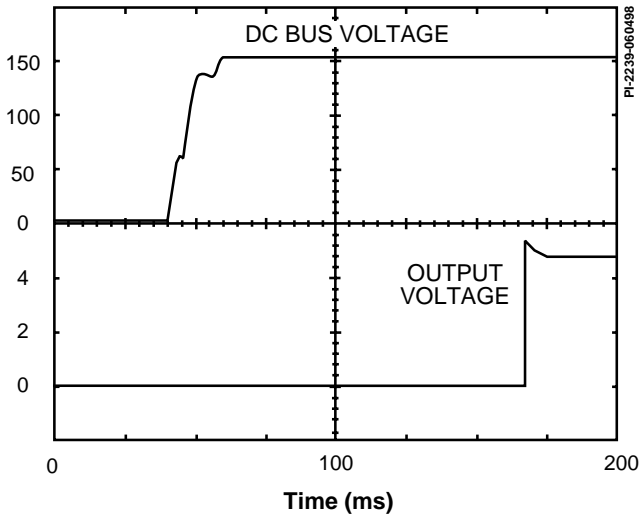

Figure 9. Turn on Delay.
Table 2. Parts List For the RD7. (* Optional, for C_{ss} values see Figure 9. **T1 is available from Premier Magnetics (714) 362-4211 as P/N TDS-1185-9818, and from Coiltronics (561) 241-7876 as P/N CTX14-14193-X1. *** TOP221G can be used with layout modifications.)
Soft start can be added to eliminate turn-on overshoot. With C_{ss} placed across VR1, the optocoupler current is increased during turn-on time. This increased current limits the duty cycle and slows down the rising output voltage (See Figure 9). The bias winding output is rectified and filtered by D3 and C6 to provide a bias voltage for U2. C5 filters internal MOSFET gate drive charge current spikes on the CONTROL pin, determines the auto-restart frequency, and compensates the control loop. C_c is needed when the supply is operating in a noisy environment (e. g. when the power supply is sharing the same input rectifier and filter capacitor with another power supply). C_c filters high frequency noise.